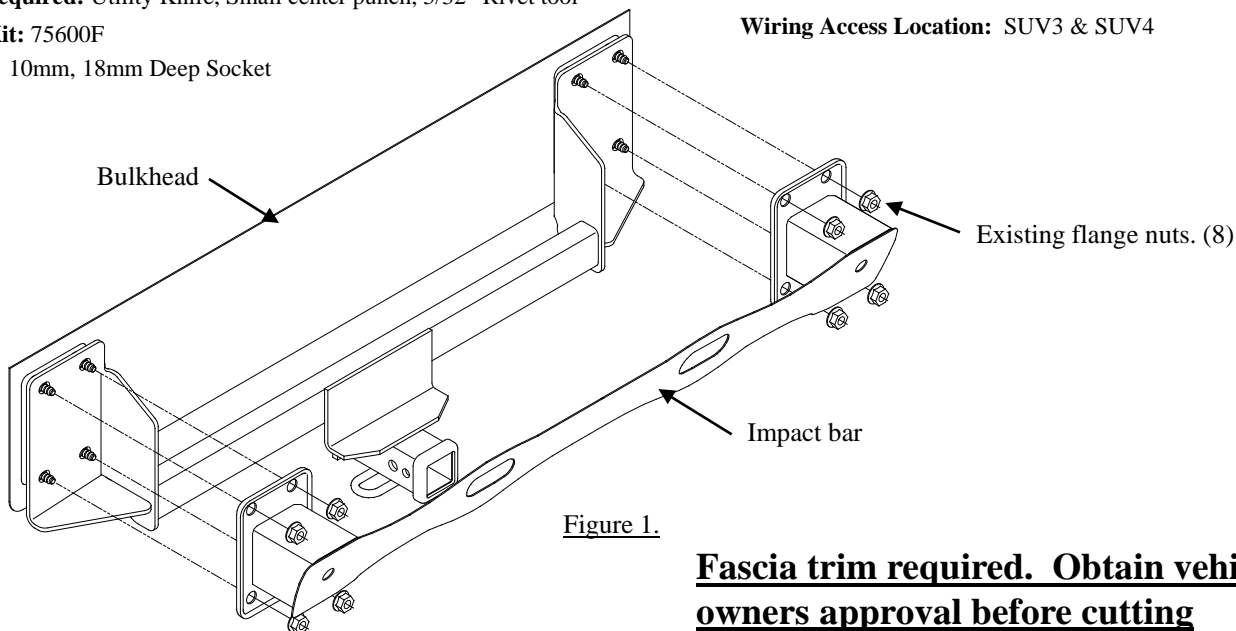

Figure 1.
4. Re-install impact bar over hitch brackets, and re-install existing flange nuts (See Figure 1). Center hitch on vehicle.